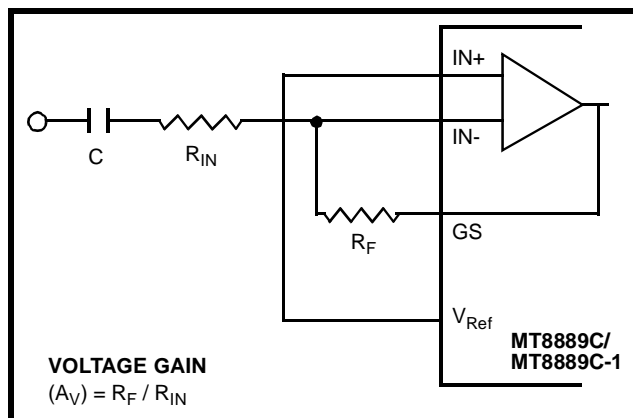

Figure 3 - Single-Ended Input Configuration
The input arrangement of the MT8889C/MT8889C-1 provides a differential-input operational amplifier as well as a bias source (V_{Ref}), which is used to bias the inputs at $V_{DD}/2$. Provision is made for connection of a feedback resistor to the op-amp output (GS) for gain adjustment. In a single-ended configuration, the input pins are connected as shown in Figure 3.